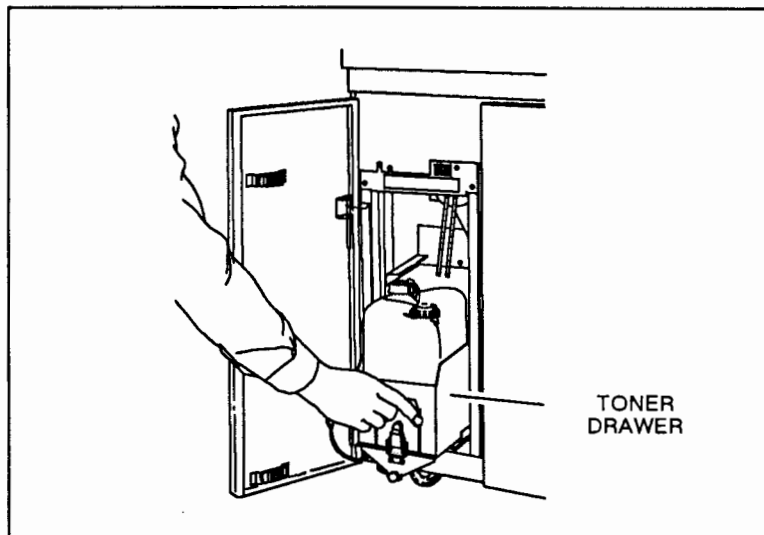

Figure 2-32. Toner Drawer
f. Pull the toner drawer out. See Figure 2-32.